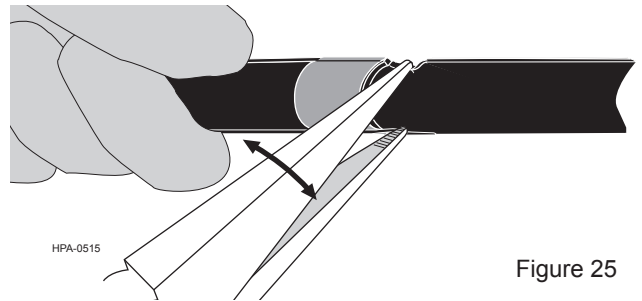

Figure 25
Step 2: Continuing to apply firm pressure on the cable sheath, twist the pliers to apply a tearing-force on the sheath until it splits at the ridges (Figure 25).